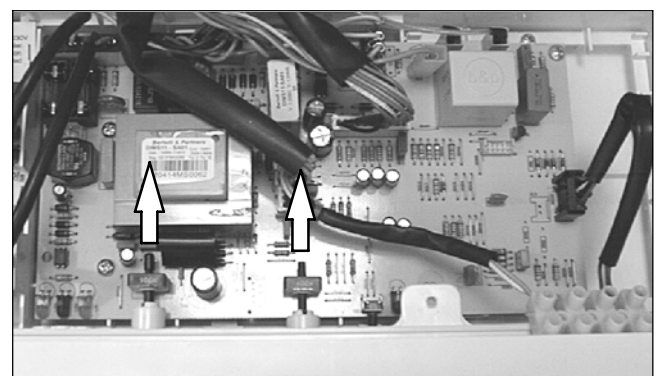

Fig. 48
- 3 Remove the spindles of the c.h. and d.h.w. temperature adjustment knobs by delicately pulling them with pliers in the direction shown by the arrow in Fig. 48.